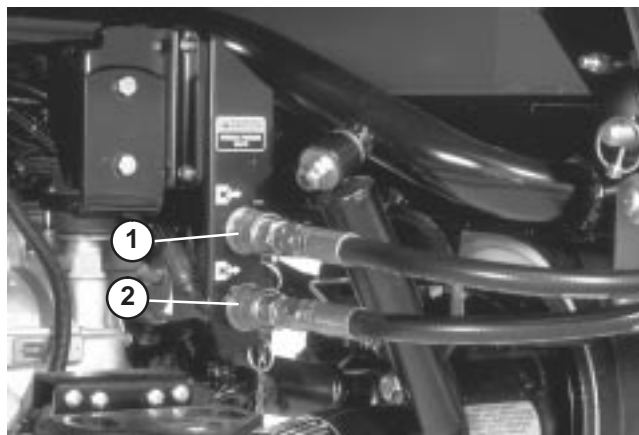

Figure 12
2. Clean dirt from quick couplers (Fig. 12) before connecting. Dirty couplers can introduce contamination to the system. After cleaning, attach both quick couplers on the topdresser to the Workman. The hoses are